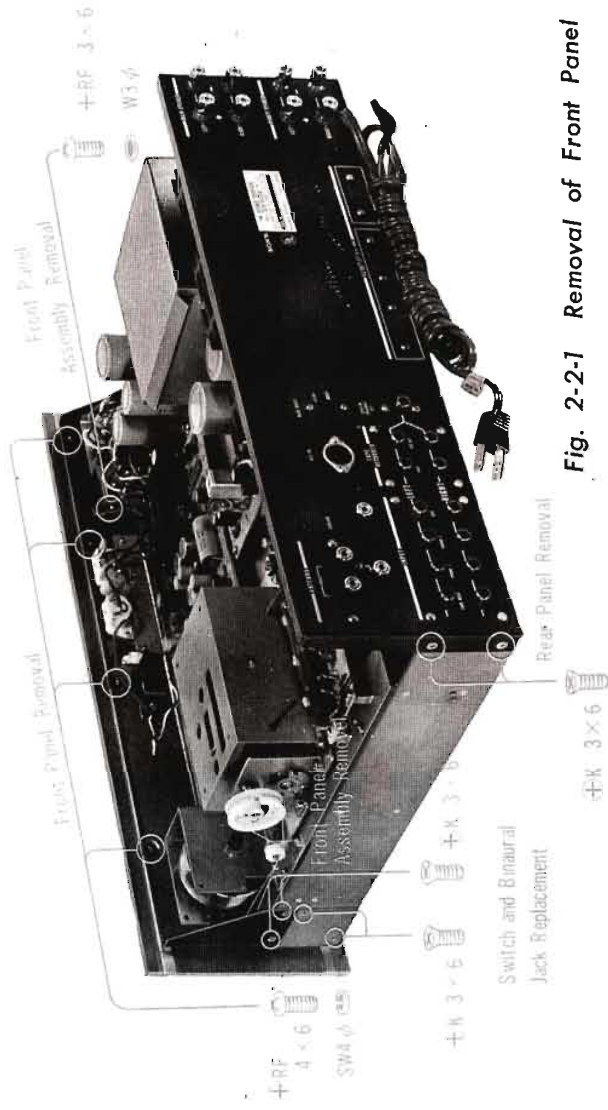

Fig. 2-2-1 Removal of Front Panel
- (c) Loosen off four Phillips-Head screws (+RF $4\phi \times 6$) behind the top edge of the Front Panel Assembly (the vertical bracket that mounts the dial and tuning meters). See Fig. 2-2-1 on next page.
- (b) Loosen off two flat head screws (+K $3\phi \times 6$) at each side of the chassis and one screw (+RF $3\phi \times 6$) that secures the sub-pannel to the volume control and mode switch bracket. See Fig. 2-2-1 on next page.
- (c) To take the binaural jacks out, remove the switch and control assembly by loosening the two screws (+K3φ×6) at each side of the chassis as shown in Fig. 2-2-1. Now tilt the assembly forward and down. The jacks can now be removed by loosening the screws that secure them to the chassis.
- (b) Loosen off two machine screws (+K3 ϕ ×6) securing the rear panel at each side of the chassis as shown in Fig. 2-2-1.
- (b) Loosen off two machine screws (+K3 ϕ ×6) at each side of the chassis as shown in Fig. 2-2-1.